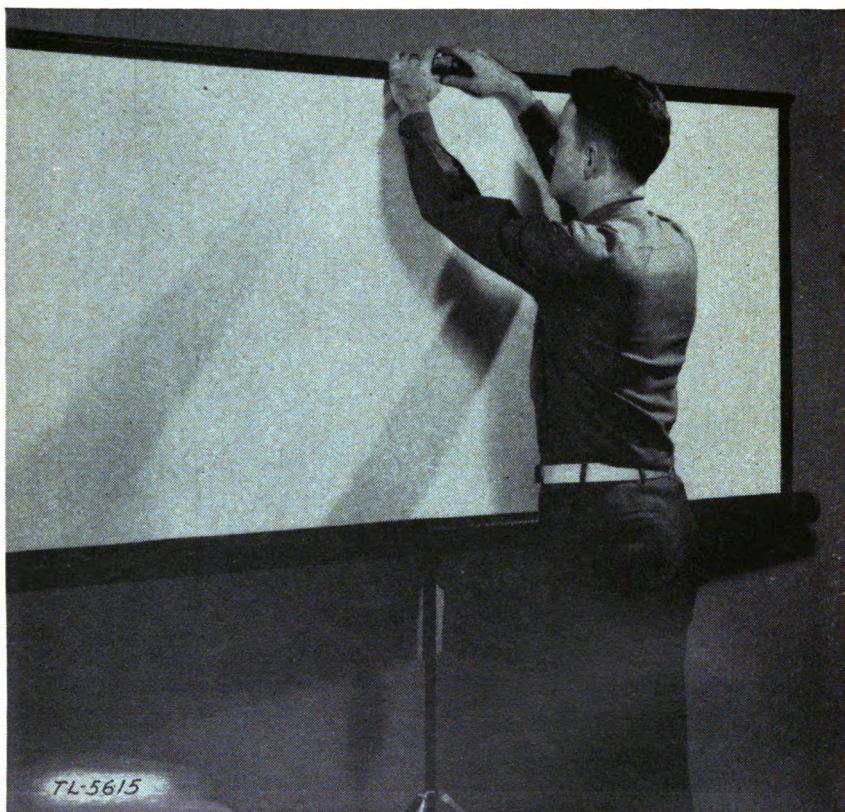

FIGURE 4.—Da-Lite portable screen ready for use.
b. The portable screen PH-358 (fig. 4) generally is employed in buildings used only occasionally for film showings. Roller screens, used in semipermanent installations, are suspended from the top edge of a frame and can be rolled up when not in use. Permanent type screens, similar to those used in post theaters, should be em-